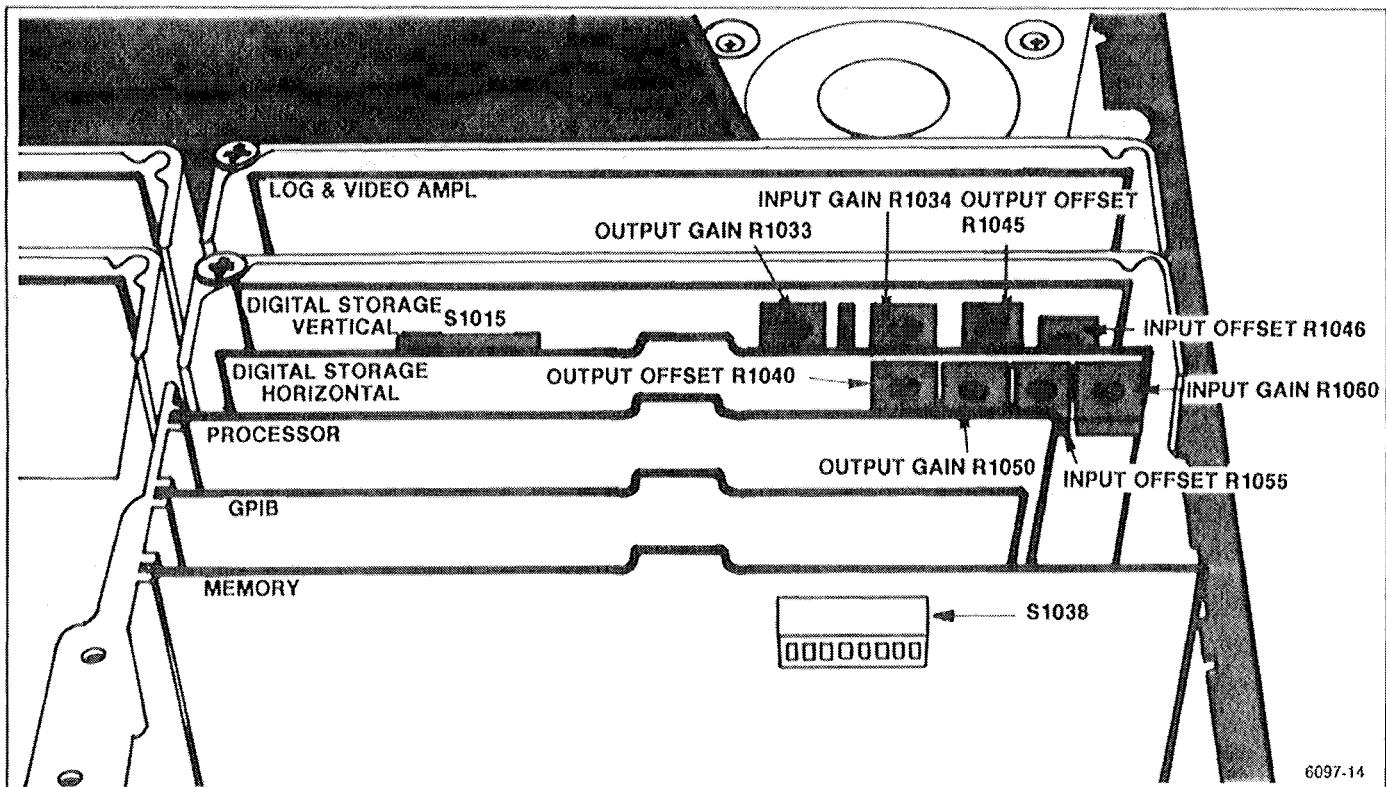

Figure 5-7. Digital storage adjustment locations.
a. Start the Digital Storage Calibration routine by pressing <SHIFT> 0, and select item 2 (DIGITAL STORAGE CAL). Follow the instructions that are displayed on the crt, referring to Fig. 5-7.
d. Adjust Input Offset R1046 (Figure 5-7), on the Vertical Digital Storage board, to match the stored display to the non-stored display while repeatedly switching VIEW B on and off.
f. Adjust Input Gain R1034 (Figure 5-7), on the Vertical Digital Storage board, to match the stored display to the non-stored display.
i. Adjust Input Gain R1060, on the Horizontal Digital Storage board (Figure 5-7) to match the horizontal position of the stored signal to that of the non-stored signal.